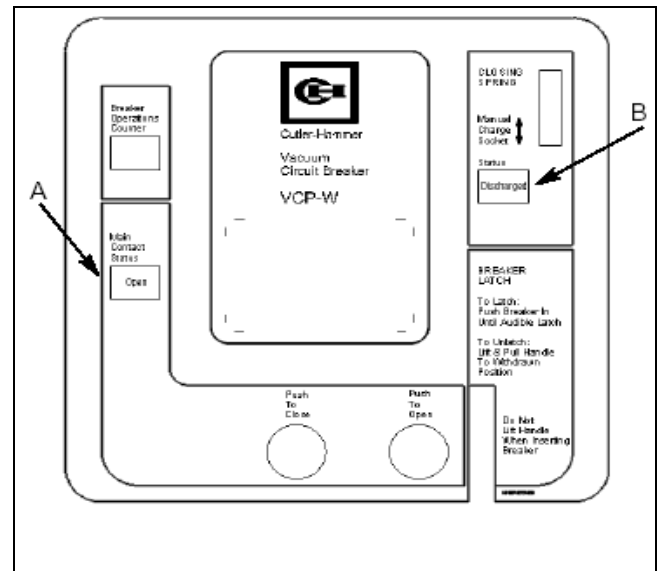

Figure 6-5 Status Indicators ("A" shows the contact Status indication and "B" and spring indication) (Some breakers will not have the escutcheon that is shown).
Step 1 - On the front cover identify the status indicators. MAKE SURE THE CLOSING SPRING STATUS INDICATES “**Discharged**” AND THE MAIN CONTACT INDICATOR SHOWS “**Open**” (Figure 6-5).